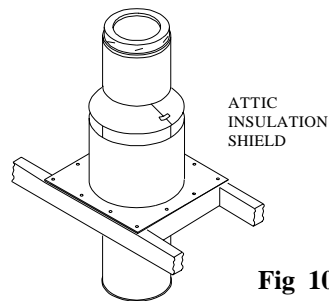

Fig 10
Install the Attic Insulation Shield where the chimney passes into an attic. It's purpose is to prevent debris and insulation from getting too close to the chimney (Fig 10). An installed Attic Insulation Shield is 15 inches high. In attic areas where this shield cannot fit, you must enclose the attic portion of the chimney in a framed enclosure. If the chimney is fully enclosed through the attic, an Attic Insulation Shield is not required. If the chimney passes into the attic, install the Attic Insulation Shield as follows:
e. Secure the Attic Insulation Shield to the top of the framed opening using at least (3) 8-penny nails or (3) #8, 1-1/2" wood screws per side (Fig 10).